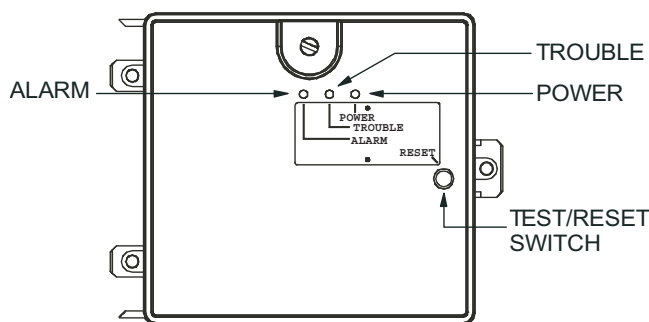

Fig. 48 — Controller Assembly
- The contacts on the controller's supervisory relay switch positions. (See Fig. 48.)